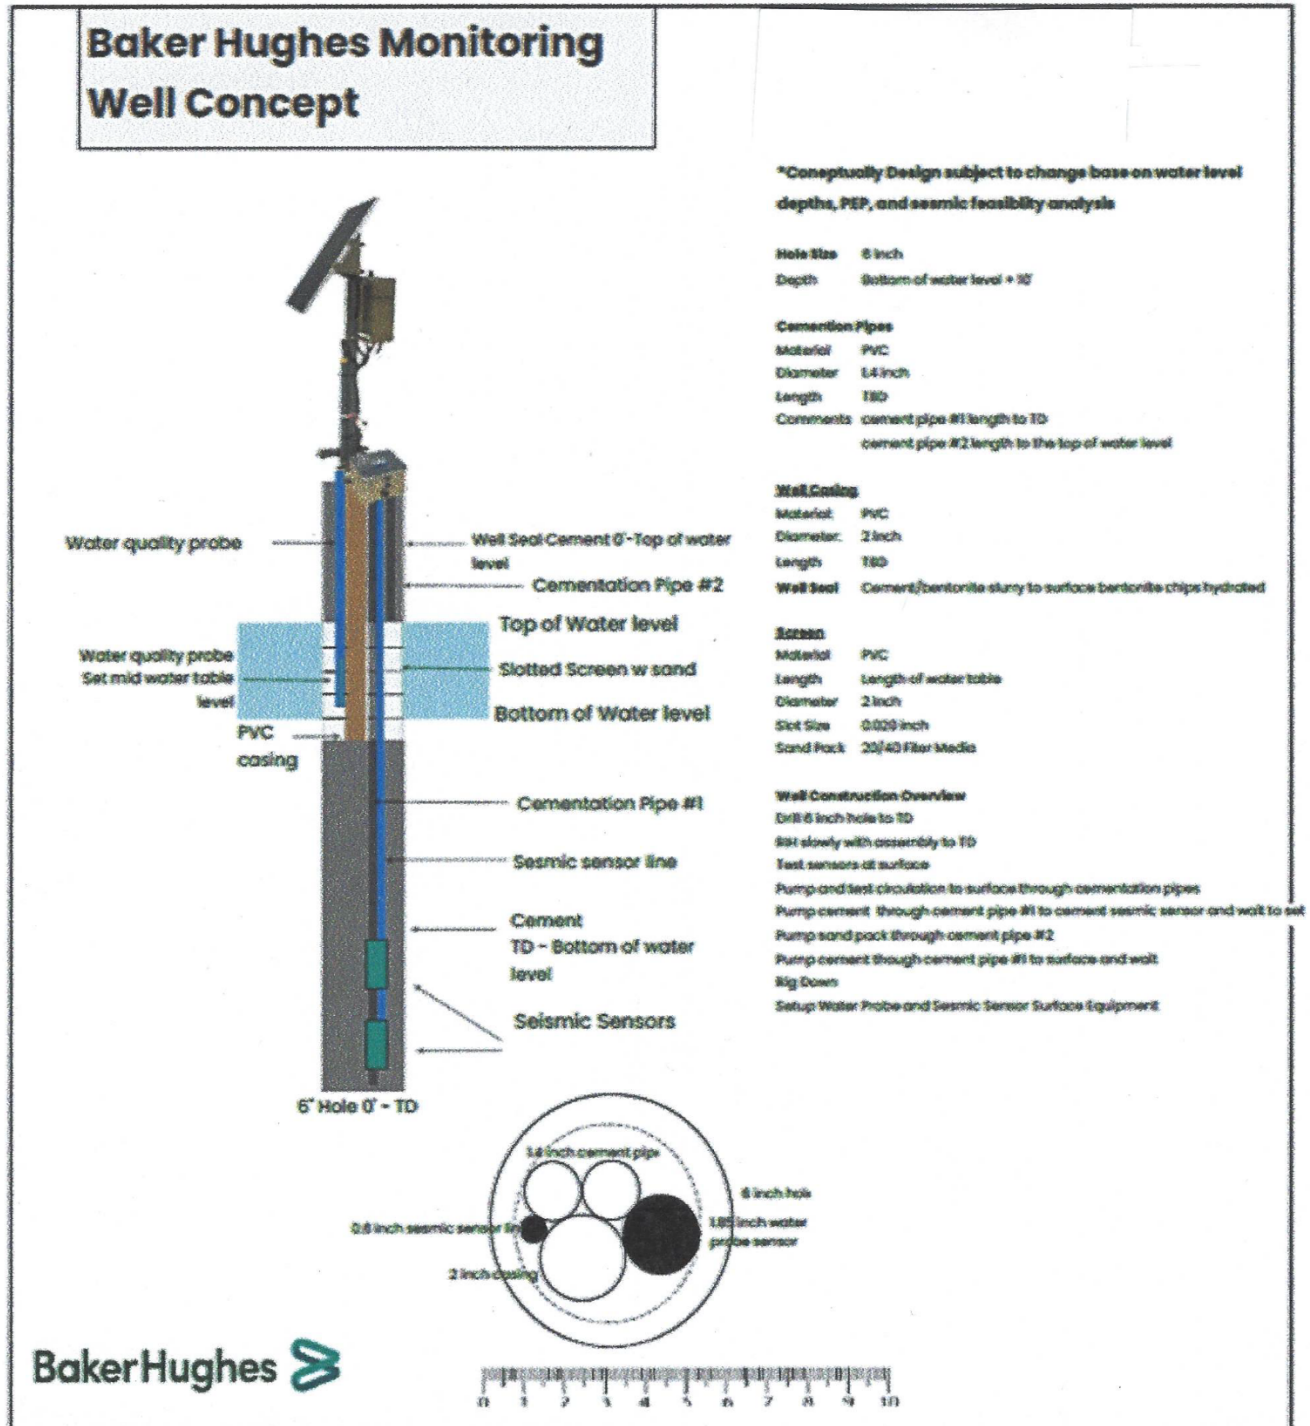

Figure 5.4 Vanguard GWM-1 (groundwater and seismic monitoring well) WBD
NexGen plans to drill and complete ten (10) groundwater and shallow seismic monitoring wells labeled Vanguard GWM-1 through Vanguard GWM-10. These wells will be located 150 ft due east of the AZM wells. These wells are further detailed in permit *Section 8.9* and illustrated in 5-4. Each GWM well will have a 6-inch hole diameter drilled to an average of 400 ft TVD. They will include the following components: two (2) 1.4-inch PVC cementation pipes, one (1) 0.6-inch seismic sensor line, one (1) 1.85-inch water probe sensor, and one (1) 2-inch PVC casing. The water quality probe will be installed within a slotted screen at a depth determined by logging data, as shown in **Figure 5.4**. A seismometer will be cemented at the bottom of the well to optimize coupling with the bedrock. NexGen will use services provided by Baker Hughes or an equivalent provider.